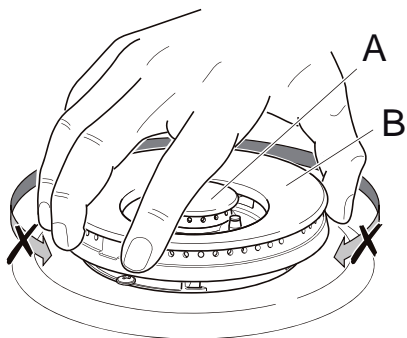

Figure 15e
- Then position the cap “A” and the ring “B” (see fig. 15e).